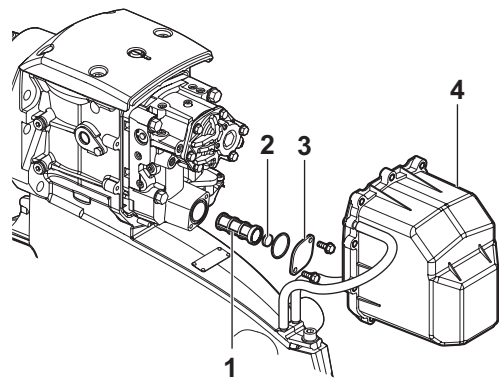

Figure 4-12
8. Remove the case plate cover (Figure 4-12, 4), filter cover (Figure 4-12, 3), magnet (Figure 4-12, 2) and filter (Figure 4-12, 1). Clean or replace the filter and magnet.